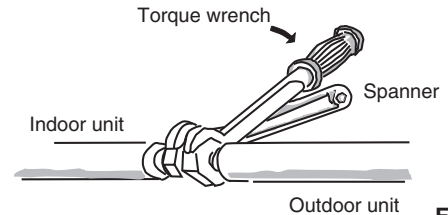

Fig. 5-6
- (2) To fasten the flare nuts, apply specified torque as at right:
- When removing the flare nuts from the tubing connections, or when tightening them after connecting the tubing, be sure to use a torque wrench and a spanner. (Fig. 5-6)